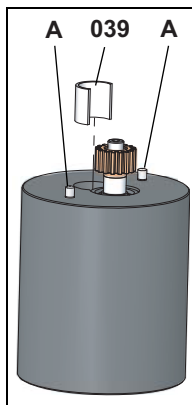

Fig. 11
6. Slide the set of screws in the measuring housing. Slide the distance sleeve **039** into the hole of the small measuring screw **672.2**, see Fig. 11, page 32.